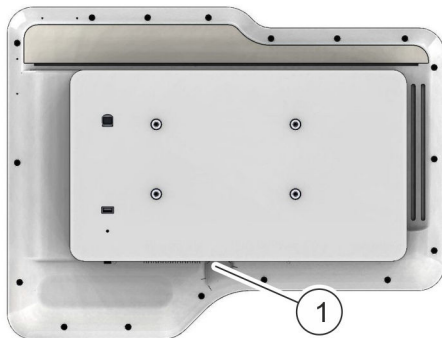

Fig. 6: On/off switch on the terminal
**2.** → If there is genuinely a system error, switch the terminal off and on again using the on/off switch on the back of the terminal (Fig. 6/1).